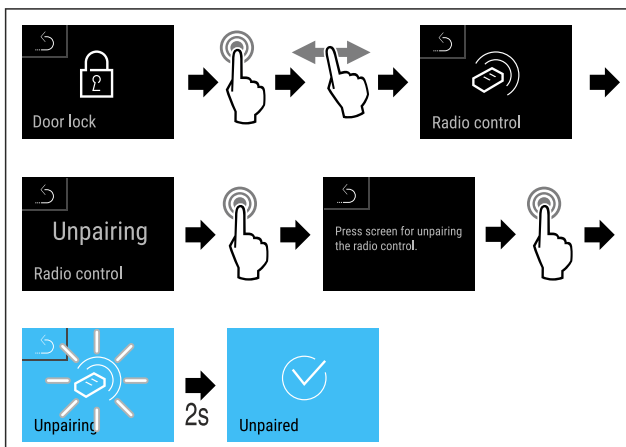

Fig. 102
- ▶ Complete steps (see Fig. 102).